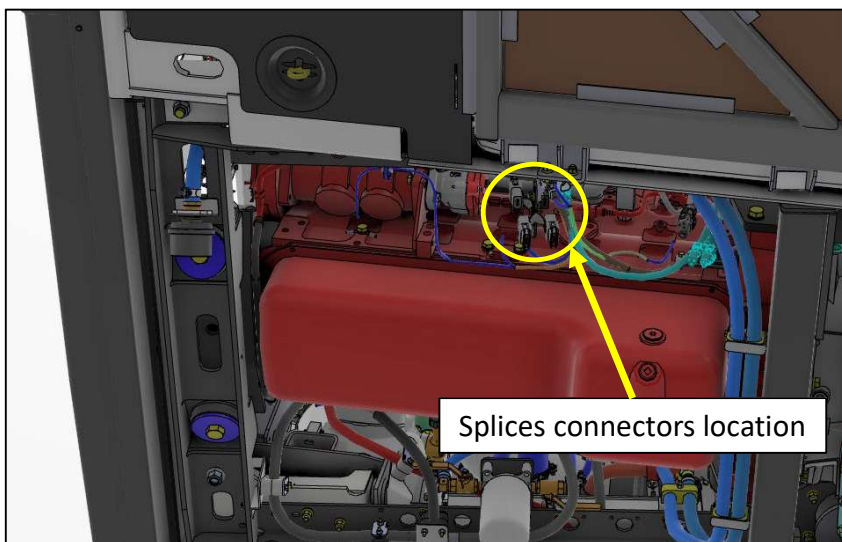

Figure 2 – Splice Connectors Cluster Location
2. Locate the splice connectors cluster (see figure 2).